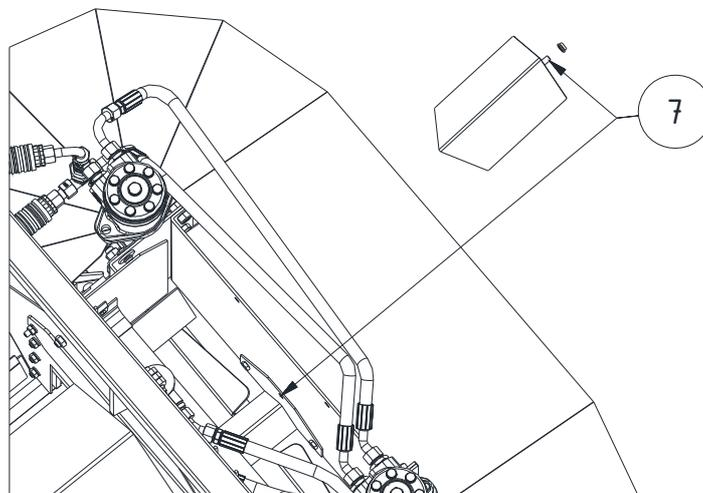

Fig. 3: Spreader system
- (7) Guide plate (see p. 11 – fig. 3).
- In case of very moist material and thick spread layer, the guide plate (7) at the spreader system (held by nut M8) can be removed (fig. 3).